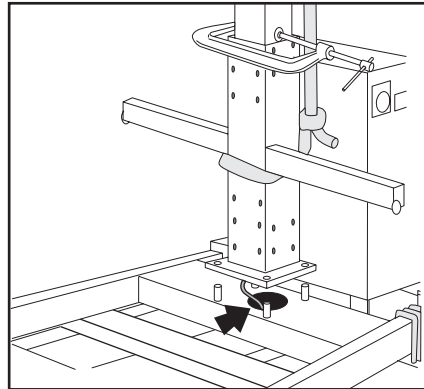

Figure 14
1. With the column supported above the base unit, put the plastic hydraulic return tubing through the hole in the base as shown. (Figure 14). Be sure to ease the tubing out of the way as you lower the column onto its studs so it is not damaged during column assembly.